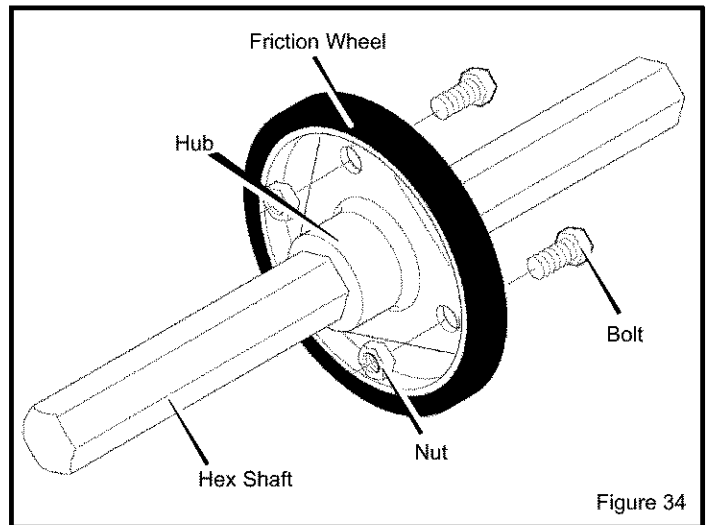

Figure 34
9. Position new friction wheel onto hub (see Figure 34). Install bearing plates to original position. Ensure hex shaft is engaged with both bearing plates.